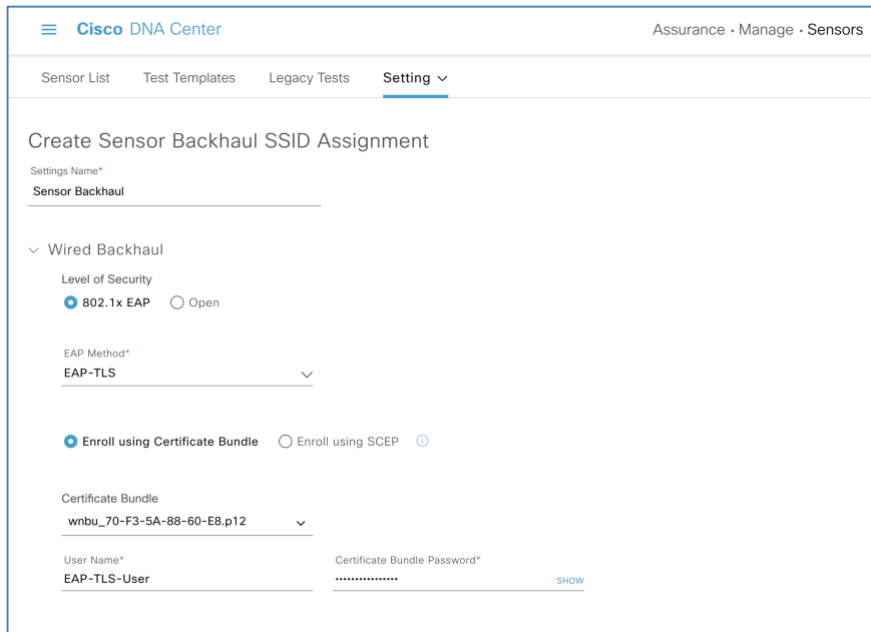

Figure 38. Configuring custom certificate, username, and password with EAP-TLS for wired backhaul profile
- c. If EAP-TLS or PEAP-TLS is selected, upload either a Certificate Bundle into Cisco DNA Center, along with the bundle's username and password, or Enroll using SCEP (Refer to the Certificate Management with SCEP section for more information) (**Figure 38.**).